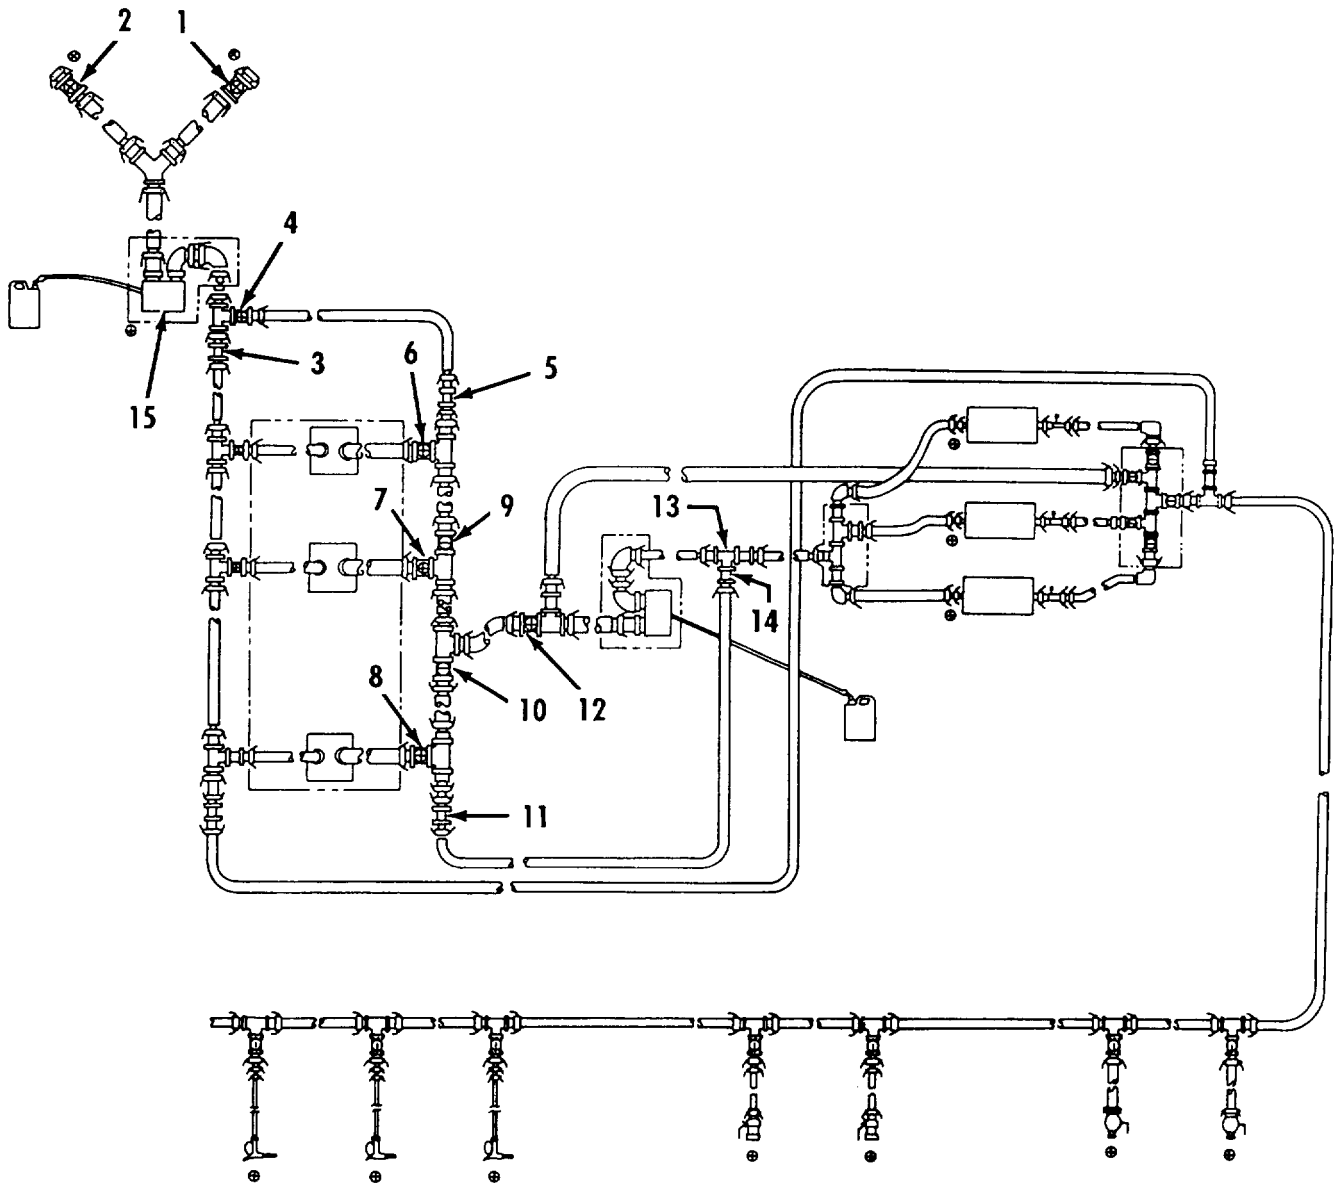

Figure 2-39. Refuel Mode - Fuel Tank and Secondary Pump Bypass.
- (9) Refuel Mode - Fuel Tank and Secondary Pump Bypass. Refer to figure 2-39.